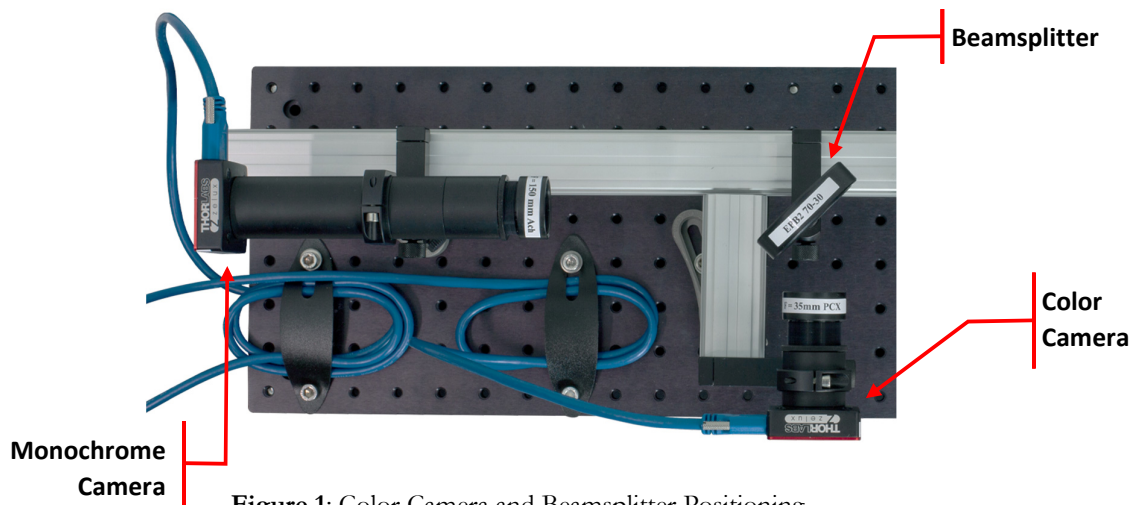

Figure 1: Color Camera and Beamsplitter Positioning
10. Place a rail carrier on the main rail at the base of the short rail (see Figure 1), and mount the beamsplitter angled at 45° , so that light will come from the objective and reflect off it to the color camera.
13. Make sure the color camera is facing along the rail (i.e., facing perpendicular to the main optical rail. It is easiest to see whether this is correct by standing up and looking straight down on the camera, the same perspective as used to take the picture in Figure 1 above).